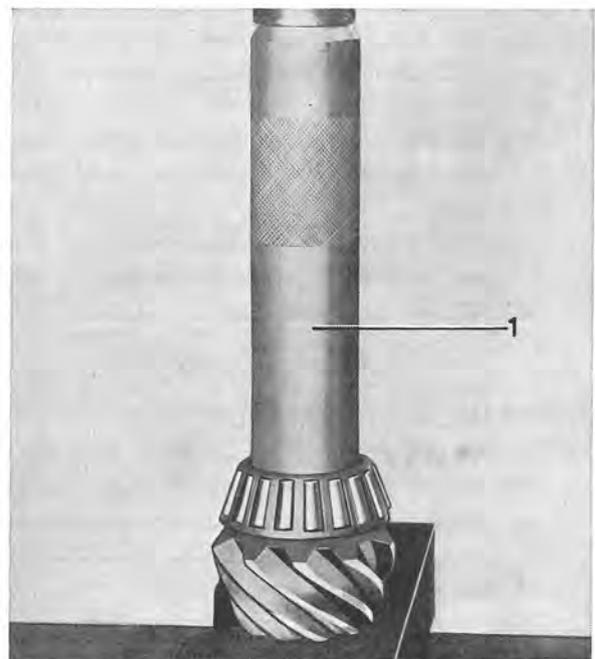
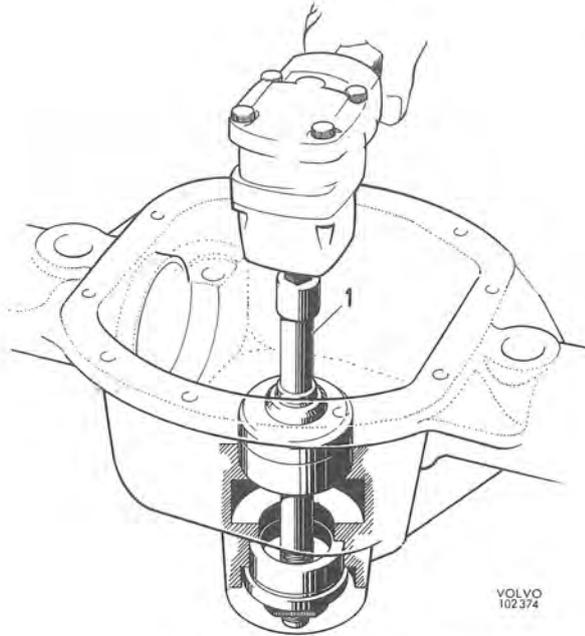

Fig. 4-157. Fitting the rear pinion bearing
Fig. 4-158. Fitting the bearing rings
- Press the rear bearing on the pinion with sleeve SVO 2842, see Fig. 4-157. Fit the measured shims and press in both the outer rings of the bearings with tool SVO 2845, see Fig. 4-158.